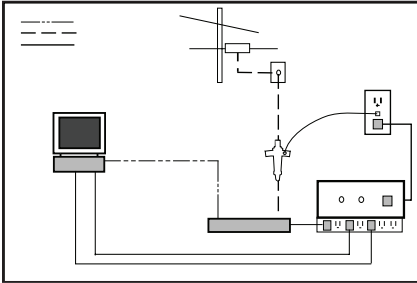

Figure 1. Typical Cable Modem Installation
2. Use the supplied coax cable extension line (if necessary) to connect the incoming cable service to side A of the FSCATV and connect side B to the equipment being protected. (See Figure 1 or 2)